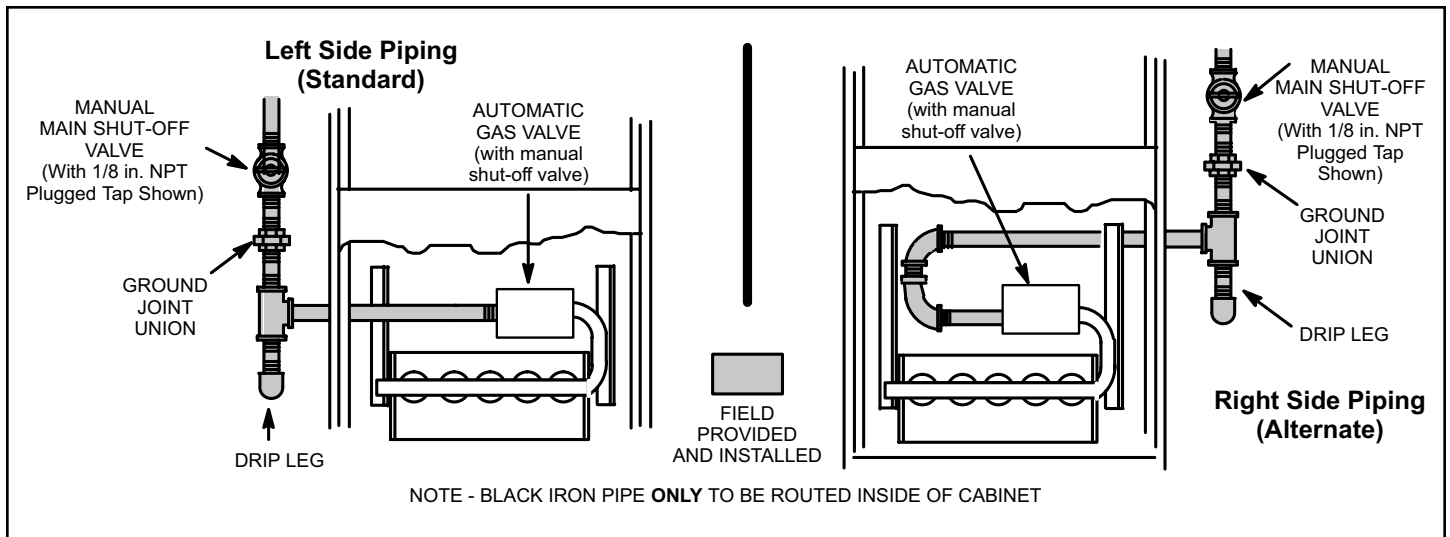

Figure 48.
3. Install the cap over the clean out opening at the base of the trap. Secure with clamp. See Figure 48.
4. Install drain trap using appropriate PVC fittings, glue all joints. Glue the provided drain trap as shown in Figure 48. Route the condensate line to an open drain. Condensate line must maintain a 1/4" downward slope from the furnace to the drain.